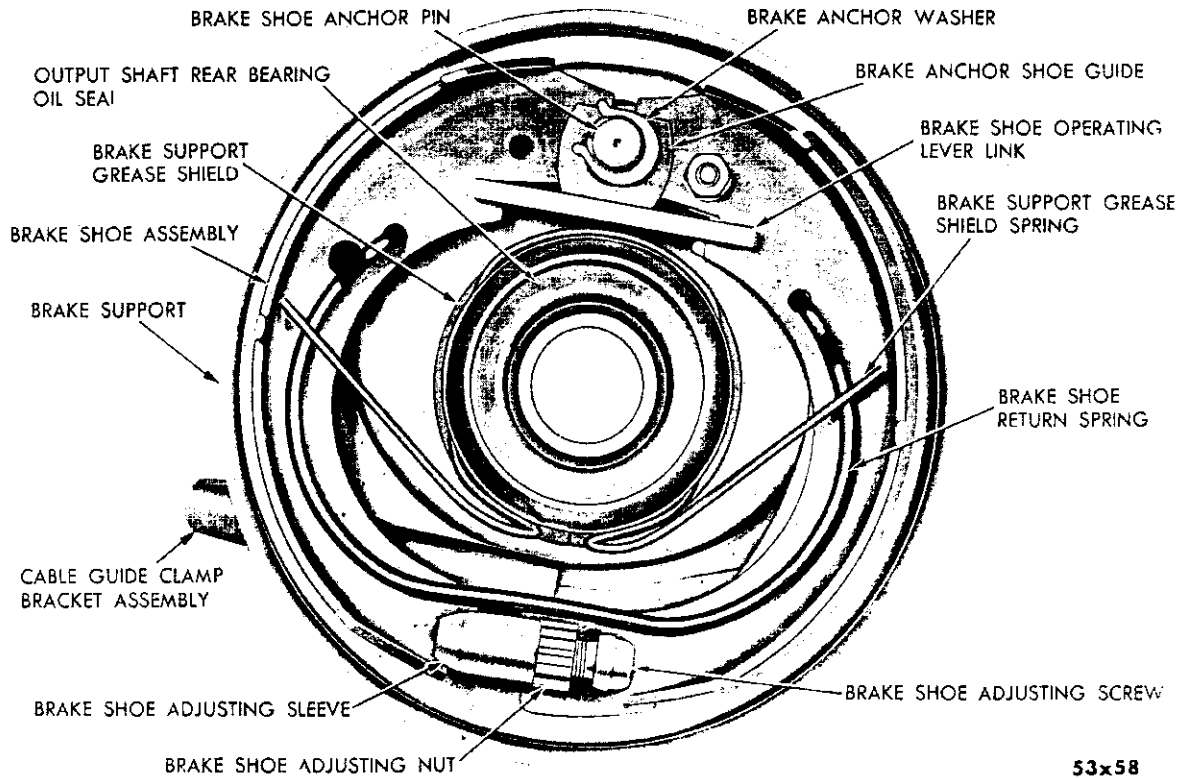

Fig. 3—Parking Brake Internal Expanding
(Figures 3 and 4)
All Models equipped with the automatic transmission have a 7 inch internal expanding two shoe parking brake (Fig. 3).
b. Assembly (Figure 3)
(1) Assemble the operating lever to the right brake shoe.
(2) Slide the right and left hand brake shoes under the guide spring and up on top of the inner anchor guide.
(3) Spread the shoes and insert the operating lever strut with the wide slot toward the operating lever, and stamped "top" facing up.
(4) Work the shoe return spring under the grease shield spring and secure ends in proper holes in webs of shoes, as shown in Figure 3.
(5) Spread the bottom of both shoes apart and install the brake shoe adjusting nut screw and sleeve.
NOTE: Install the adjusting nut, screw and sleeve in the proper position, as shown in Figure 3. If in-